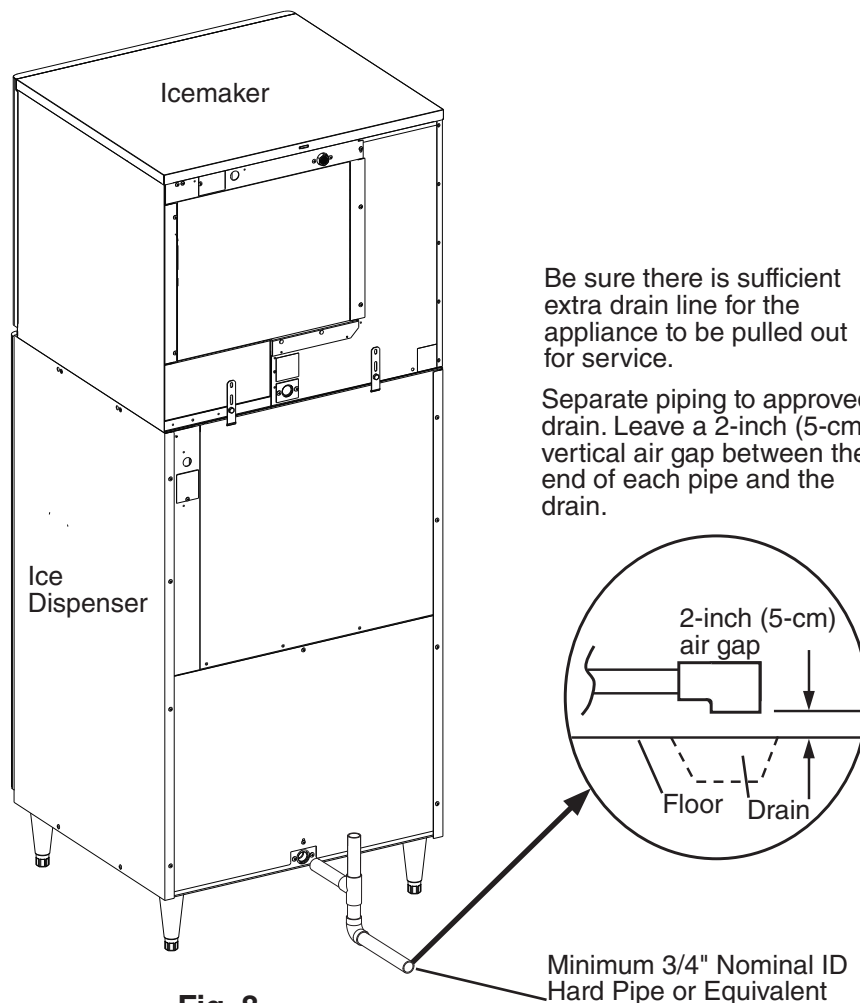

Fig. 8
- Drain lines must have 1/4" fall per foot (2 cm per 1 m) on horizontal runs to get a good flow. A vented tee connection is also required for proper flow. See Fig. 8.